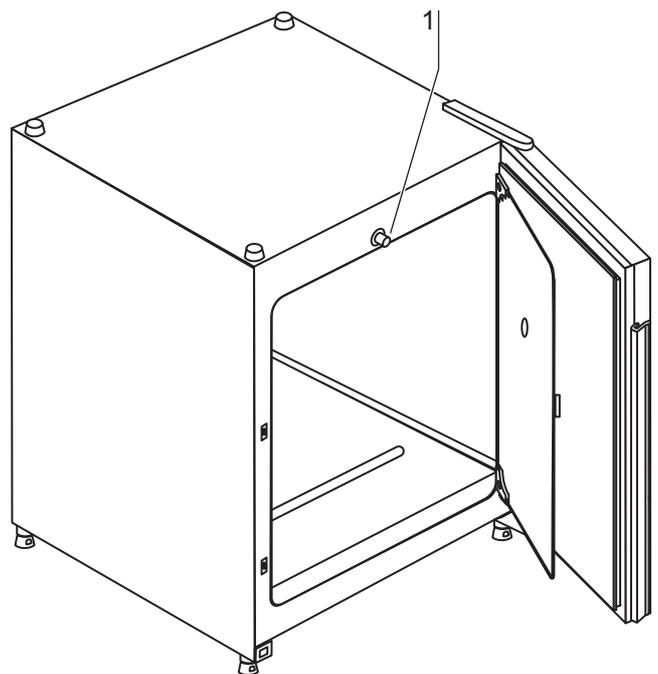

Fig.6: Door switch
**Fig.6:** A door switch [1] is installed in the upper edge of the work space opening. If the door switch is activated by opening the glass door, the gas supply and the heating of the work space are interrupted and the display shows will flash.